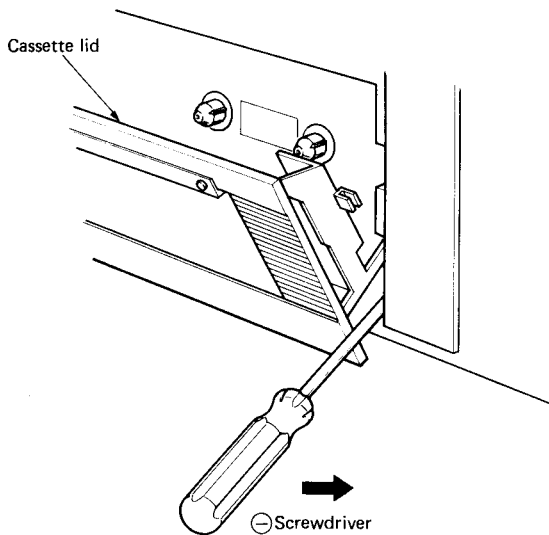

Fig. 2
- 2) Insert a (-) screwdriver between the cassette lid and the front case and pull the cassette lid toward you while pressing the screwdriver to outside. Fig. 2 shows the right side of the cassette lid. Perform same procedure for the left side.